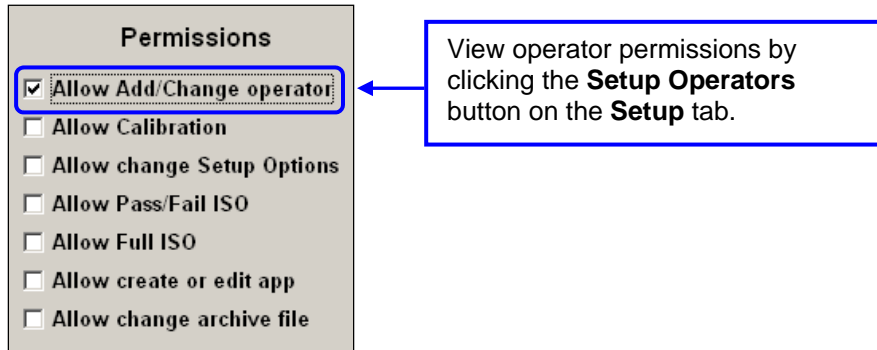

Figure 45: “Allow Add/Change operator” permission
83. Log in to the LVS-95XX software. You must log in as a user who has “Allow Add/Change Operator” permissions (Figure 45).